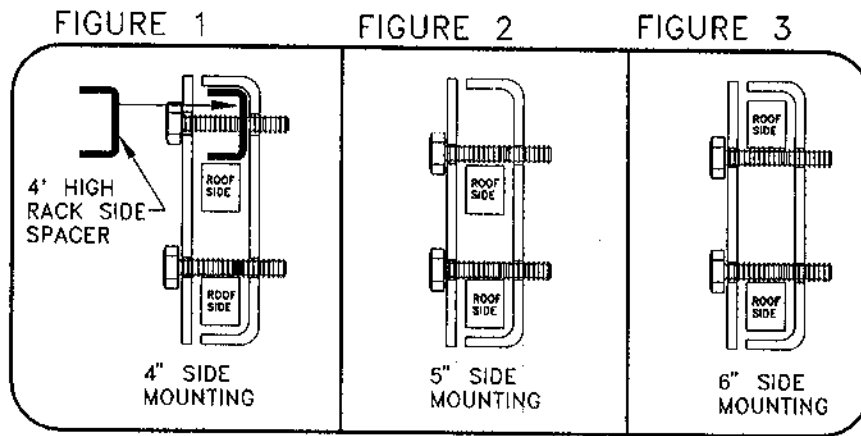

FIGURE 4
2. Install bottom support bracket and back support plate to roof rack side. Spread tap bolts to their widest position and tighten as shown in figure 4.
4. Install ax handle and secure with middle support bracket and wingnuts, as shown in figure 4.